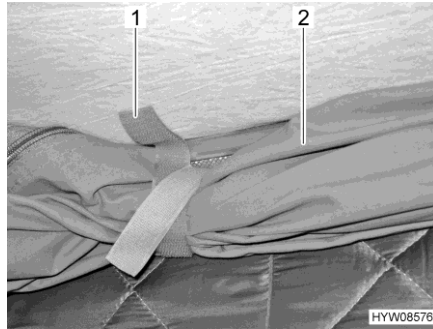

Fig. 55 Retaining clips
- Undo the retaining clips (Fig. 55,1) on the rolled-up canvas (Fig. 55,2).
- Roll up the canvas (Fig. 55,2) and secure with the retaining clips (Fig. 55,1).